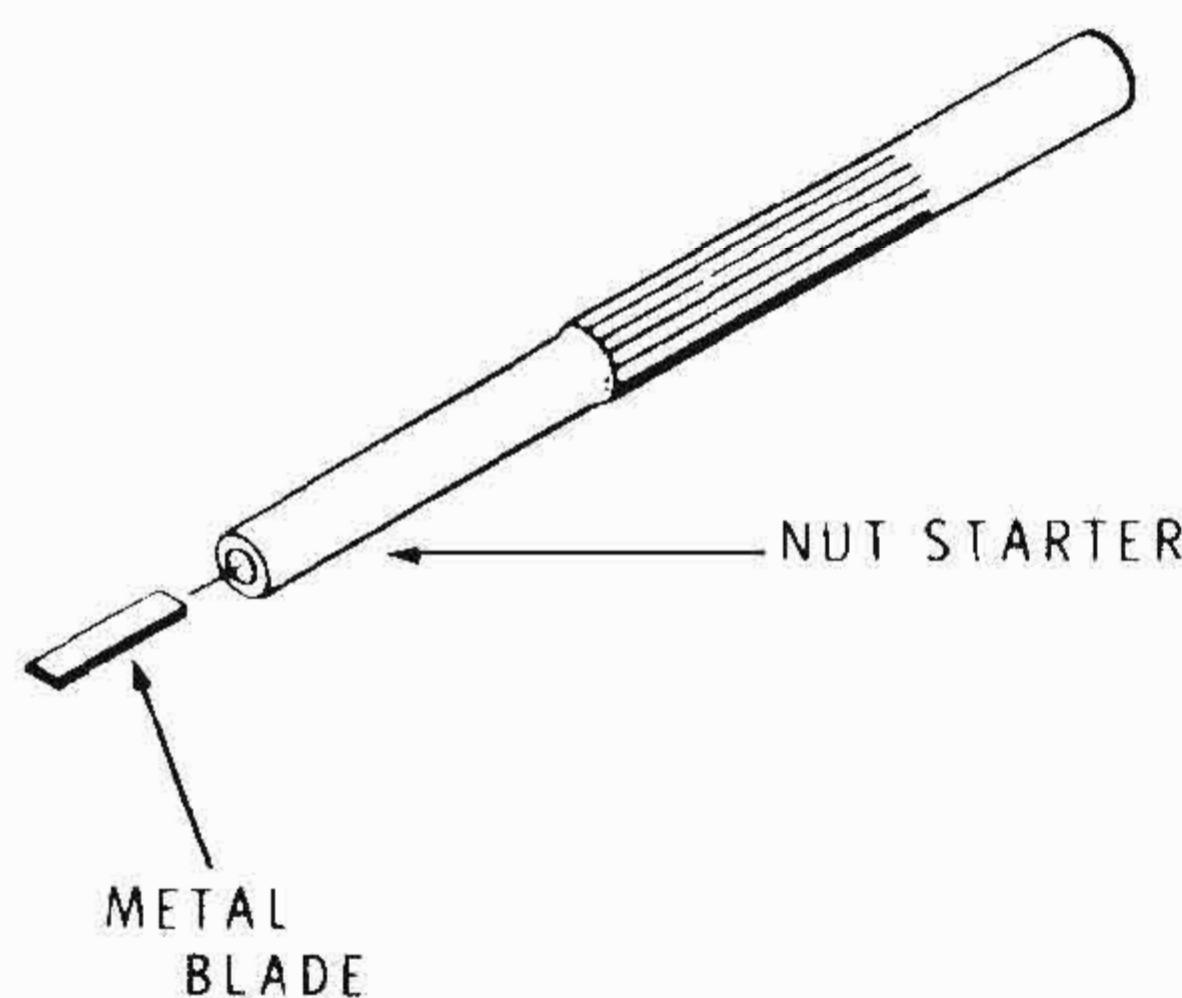

Figure 1
- ( ) Prepare an alignment tool in the following manner: Insert the 1/8" x 3/4" alignment tool blade into the small end of the nut starter as shown in Figure 1. Leave 1/4" of the blade exposed.